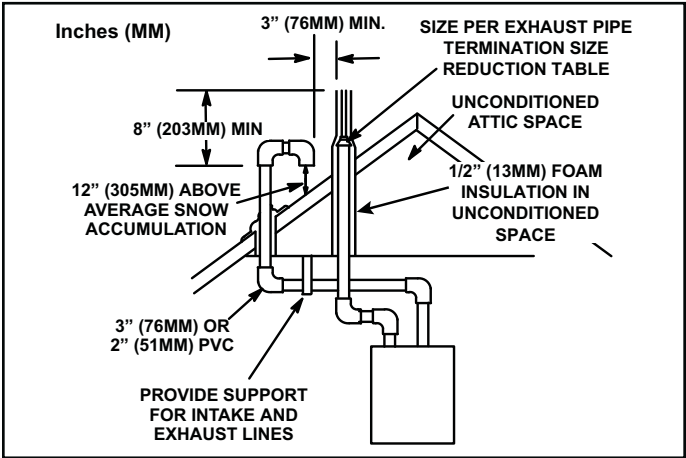

Figure 22. Direct Vent Roof Termination Kit
Intake and exhaust pipes may be routed either horizontally through an outside wall or vertically through the roof. In attic or closet installations, vertical termination through the roof is preferred. Figure 22 through Figure 29 show typical terminations.
- 3. On roof terminations, the intake piping should terminate straight down using two 90° elbows (Figure 22).
- 4. Exhaust piping must terminate straight out or up as shown. A reducer may be required on the exhaust piping at the point where it exits the structure to improve the velocity of exhaust away from the intake piping. See Figure 22.